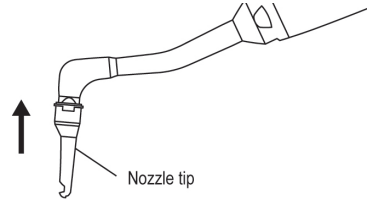

Fig. 7
1. Attach the nozzle tip to the nozzle of the handpiece (Fig. 7).